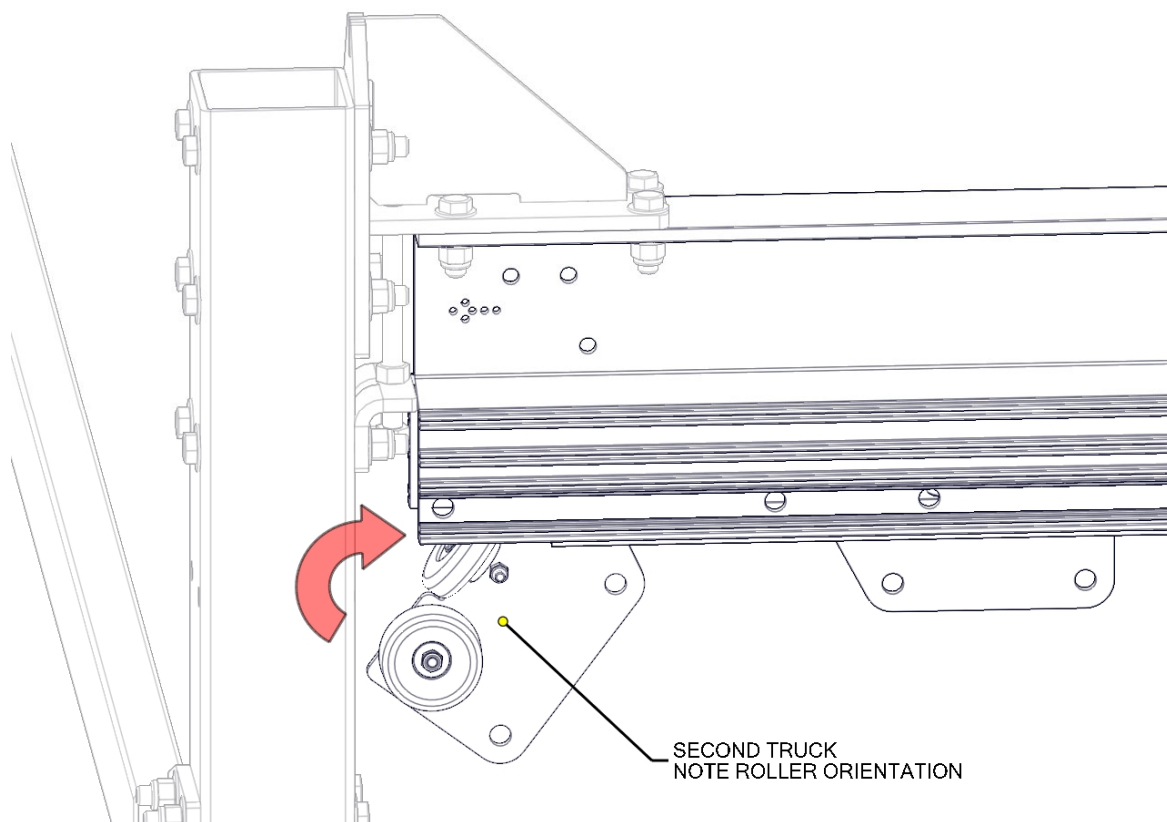

Figure 41 - Install the Second Truck
- Install the second truck by pivoting it into the end of the rail as shown in Figure 41.